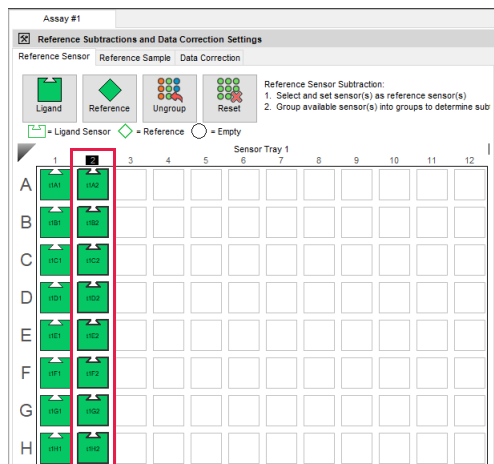

Figure 4-16: Selecting a Biosensor Column
1. The software initially identifies ligand and reference sensors from the method file. Wells not used display as empty. To identify and set reference biosensors, select the biosensors you want to use to correct for non-specific binding. These should be the biosensors you ran with an irrelevant ligand or with buffer (no ligand). You can select one sensor, row or column (Figure 4-16) or multiple sensors, rows and columns.